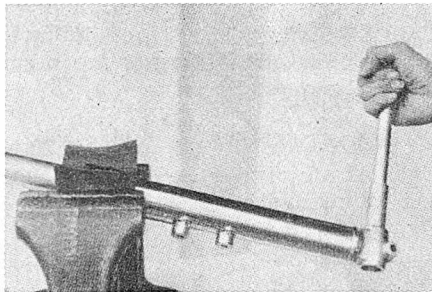

Fig. K6-9—Care should be taken to prevent damage to outer tube nut in vise.
outer tube nut (9) in a vise and turning the outer tube (7) as shown in Fig. K6-9.